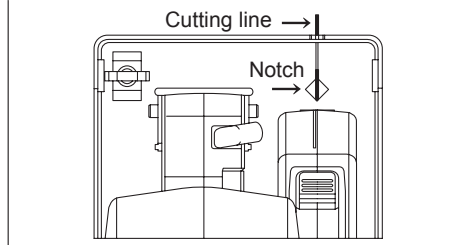

Fig.5
1. Line up the sight line on shoe with your cutting line. [Fig.5]